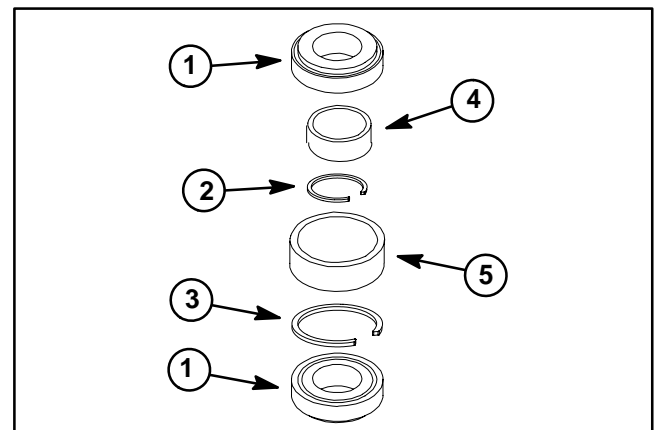

Figure 17
**IMPORTANT:** If new bearings are installed into a used spindle housing, it may not be necessary to replace the original large snap ring. If the original snap ring is in good condition with no evidence of damage (e.g. spun bearing), leave the snap ring in the housing and discard the snap ring that comes with the new bearings. If the large snap ring is found to be damaged, replace the snap ring. Replacement bearings are sold only with a matched spacer ring and large snap ring (Fig. 17). These parts cannot be purchased separately.